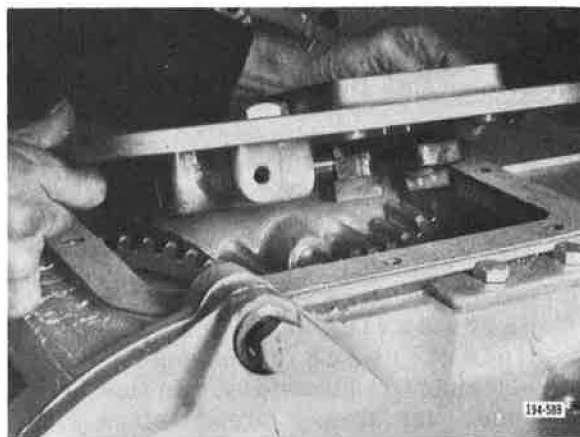

Figure 5-231. Removing Top Cover
9. Remove front case top cover. See Figure 5-231.